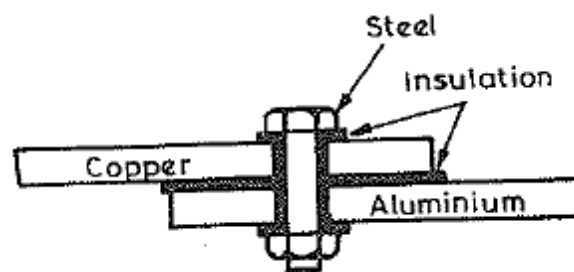

Fig.10.5 – Practice of insulating to avoid galvanic Corrosion
- ▶ If this is not possible, they (i.e., metals) should be separated (i.e., insulated) by rubber or plastic to reduce the possibility of galvanic corrosion, Fig.10.5